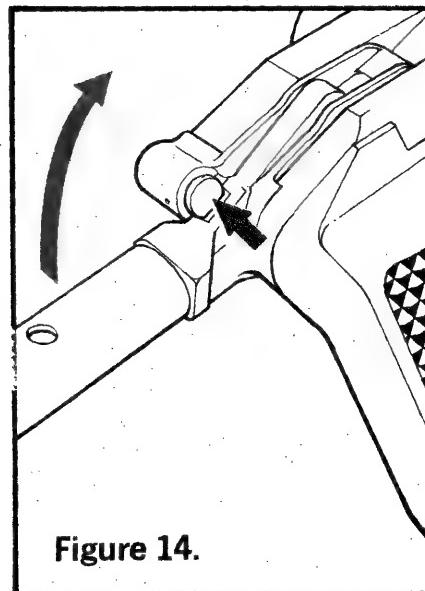

Figure 14.
1. Press upward on the Hinge Latch as shown in Figure 14 and swing the Stock Tube Assembly forward.